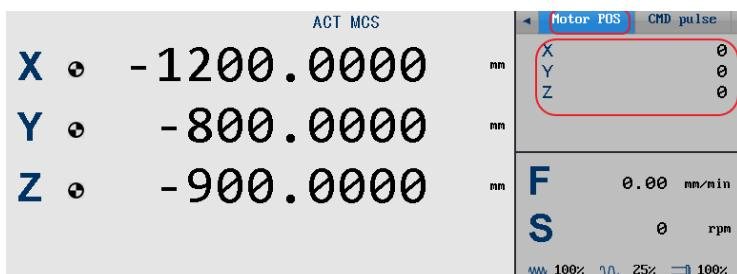

Figure 3.4.7 Motor position
- 1) View the **Motor POS** value as shown in Figure 3.4.7. The **Motor POS** here is the total pulse number that the servo motor reads from the motor encoder and feeds back to the system.